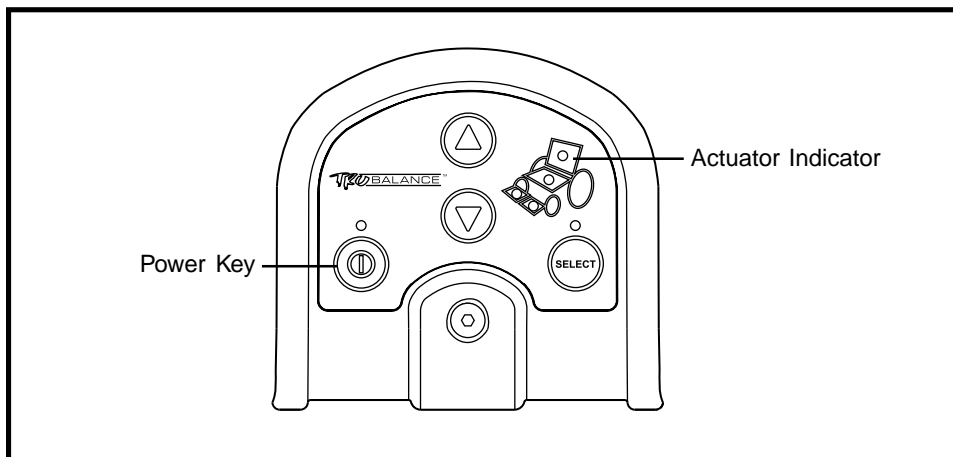
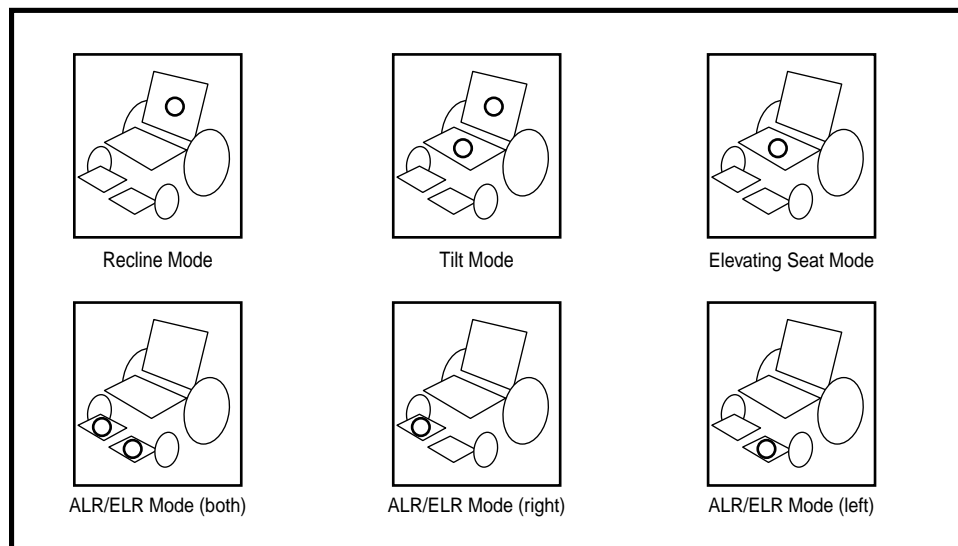

Figure 7. Attendant Control Module Functions
Figure 8. Actuator Modes
Your Synergy TRU-Balance Power Recline is equipped with an Attendant Control Module (see figure 7). The actuators can be adjusted either by the user through the controller or the toggle, or by an attendant through the Attendant Control Module. Any action made through the Attendant Control Module will override toggle actions made by the user. To adjust any of the actuators, press Select to cycle until the actuator to be adjusted is illuminated on the actuator indicator (see figure 8), then press the up arrow to increase the lift or tilt or the down arrow to decrease the lift or tilt.
3. Push the joystick to the right to cycle through the available motor functions until the seat back light is illuminated on the actuator indicator. See figure 8.